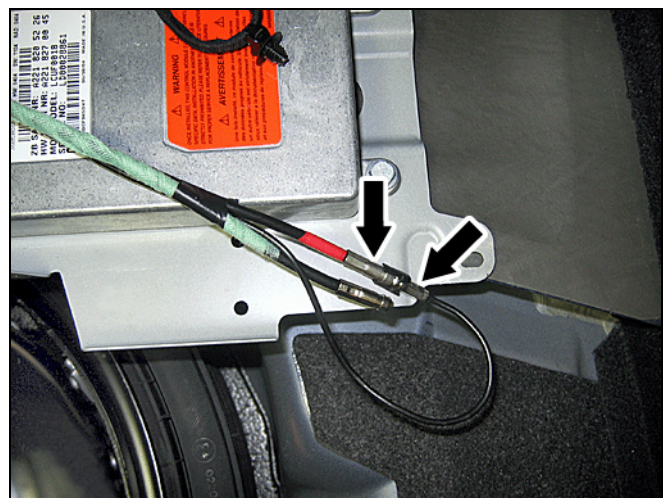

Figure 11
1. Disconnect the female and male antenna splitter connectors from one another (Figure 11).